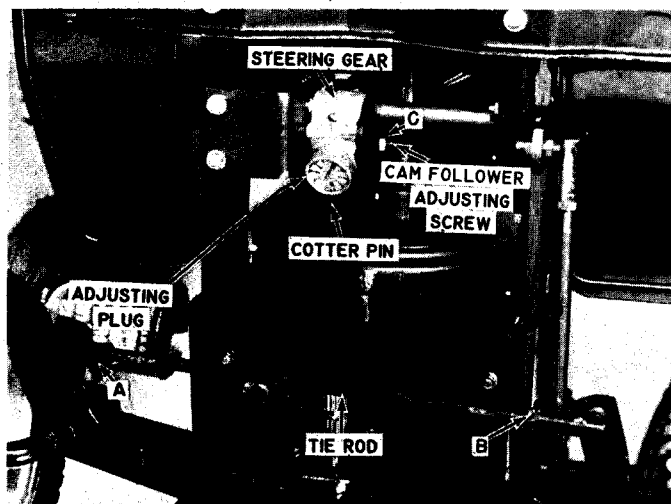

FIGURE 27
2. Remove cotter pin identified in Figure 27.
3. Loosen jam nut C, Figure 27, and turn adjusting screw out (counterclockwise) $1\frac{1}{2}$ turns.
4. Tighten adjusting plug, Figure 27, to 12-15 ft.-lbs. of torque.
6. Hold jam nut and turn adjusting screw, Figure 27, clockwise (in) until backlash is removed from steering wheel. **DO NOT FORCE ADJUSTING SCREW.** Tighten jam nut while holding adjusting screw in position.